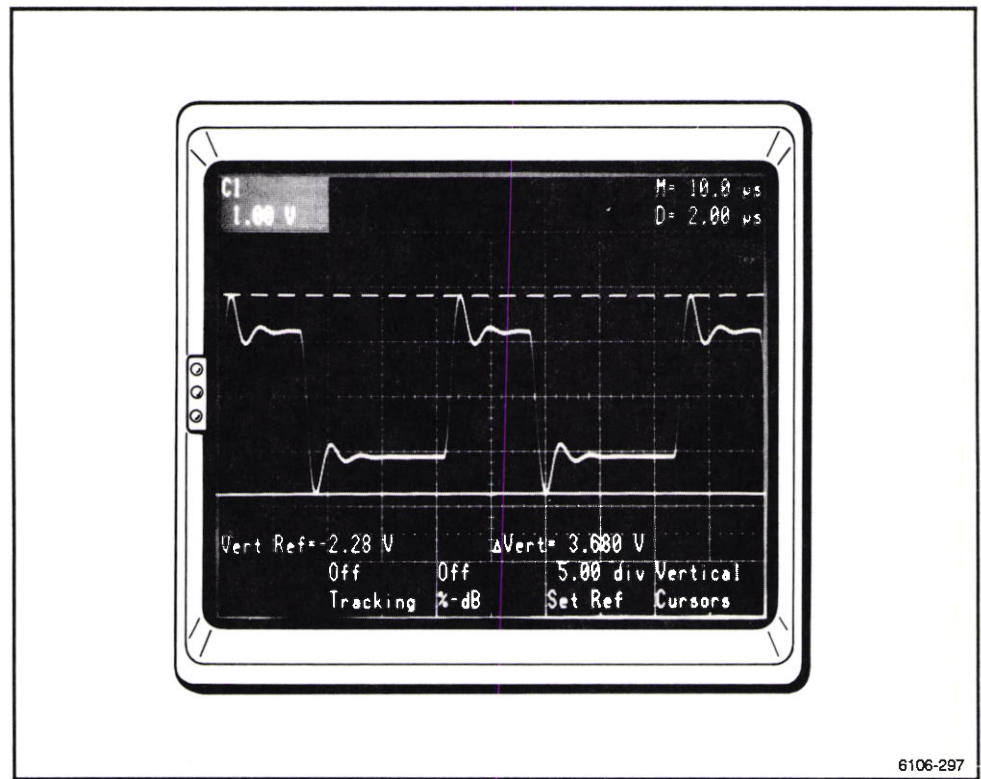

Figure 2-98. Cursors set to peaks of displayed waveform, and p-p voltage (ΔV).
7. The p-p voltage value will appear as ΔVert toward the lower right of the crt. (See Fig. 2-98.)